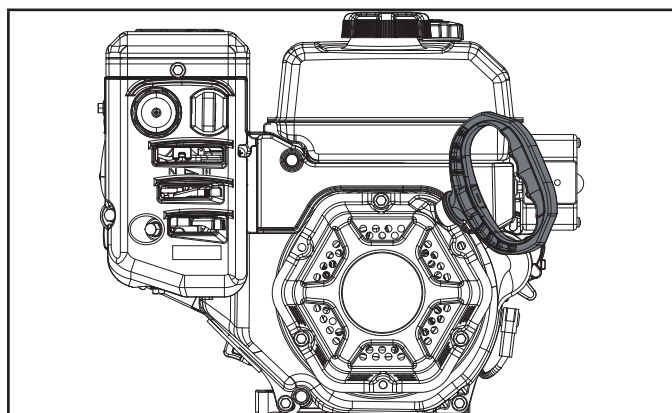

Figure 12
4. Stand back and to the right of the unit, pull the starter grip lightly until you feel resistance then pull briskly. Return the starter grip gently (Fig. 12).